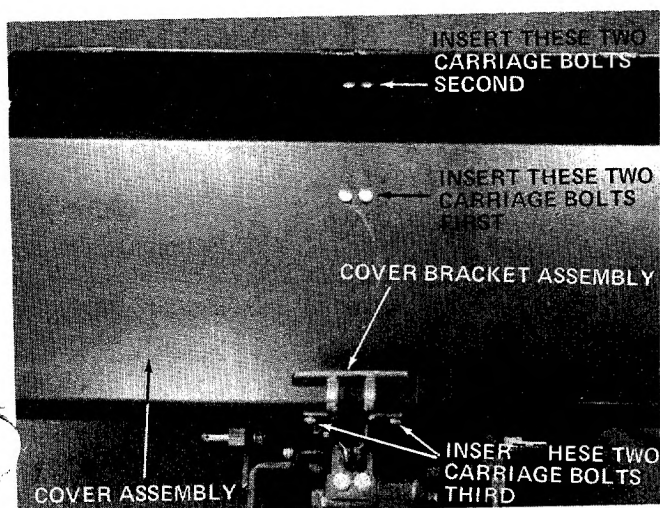

FIGURE 8
8. Place tiller cover assembly in position on the tiller cover bracket as shown in figure 8. Using six 1" carriage bolts (Q), six 5/16" lockwashers (R) and six 5/16-18 hex nuts (S) start by hand. **Do Not Tighten.**
- a. Place two of the carriage bolts in the top center of the cover first. See figure 8.
- b. Place the next two carriage bolts in the rear of the cover as shown in figure 8.
- c. Place two more carriage bolts in the front of the cover as shown in figure 8.